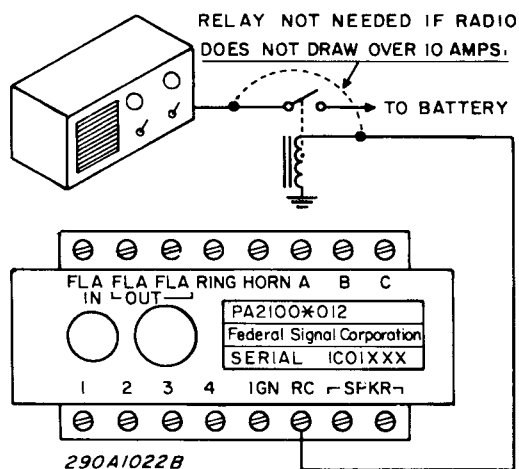

Figure 3-8. Radio Control Connections.
Proper connection of the radio control circuitry allows power to be supplied to the two-way radio whenever the vehicle's ignition is on or when the SELECTOR switch is set to RADIO (radio rebroadcast). To perform this connection, proceed as follows (see figure 3-8).
B. If the two-way radio draws more than 10 amperes of current, install a 12V DC relay in the circuit. Connect one end of the relay coil to the RC terminal on the rear of the siren module. Ground the other end of the relay coil. Use the relay contacts to control power to the radio. See figure 3-8.